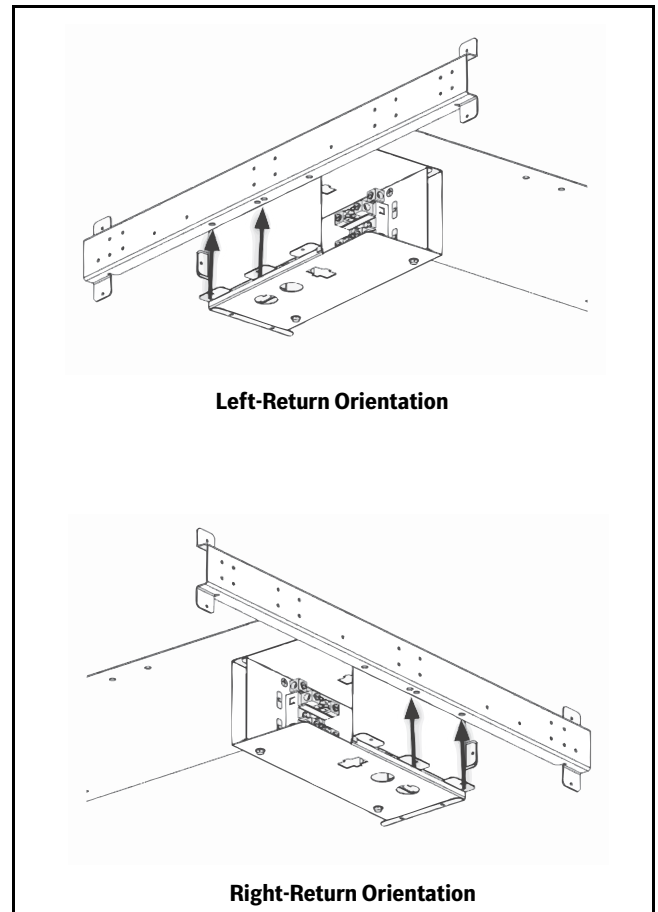

Fig. 40 CF E-Heat Control Box Installation
2. Mount the e-heat control box by aligning the holes of the control box’s flanges with the holes in the divider and fasten with two standard 5/16”-drive screws. (→Refer to Fig. 40.)